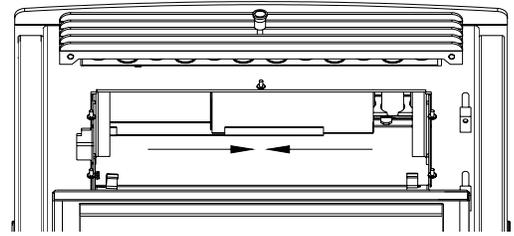

Figure 46
- b. Open the door and remove the baffle from the firebox. Slide each side of the baffle toward the center to remove(Figure 46). Close the door.
- b. **Baffle:** Remove the baffle and scrape off ashes. Slide both sides toward the center to remove the baffle(Figure 46) Use a vacuum is necessary. In some cases, you will need to remove creosote on the baffle, which can accumulate rapidly under certain conditions. A small wire brush can be used. It is important to remove this creosote because it is highly combustibile and could cause premature corrosion.